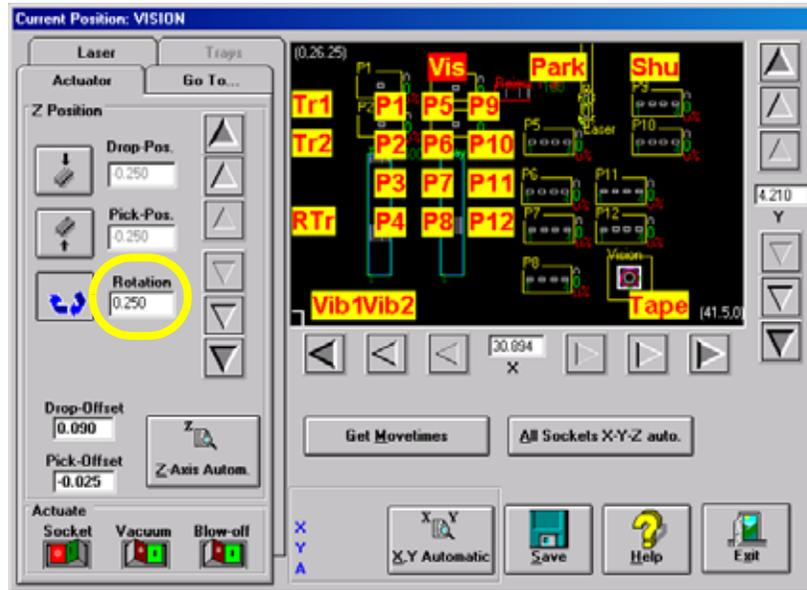

Figure 3-40—Rotation value at Vision
- 3j) Enter the R-axis rotation value needed to rotate the device so that pin 1 on the device matches pin 1 on the socket. The rotation value will be 0.000,  $\pm 0.250$ , or  $\pm 0.500$ . In this example, 0.250 is entered. See Figure 3-40.